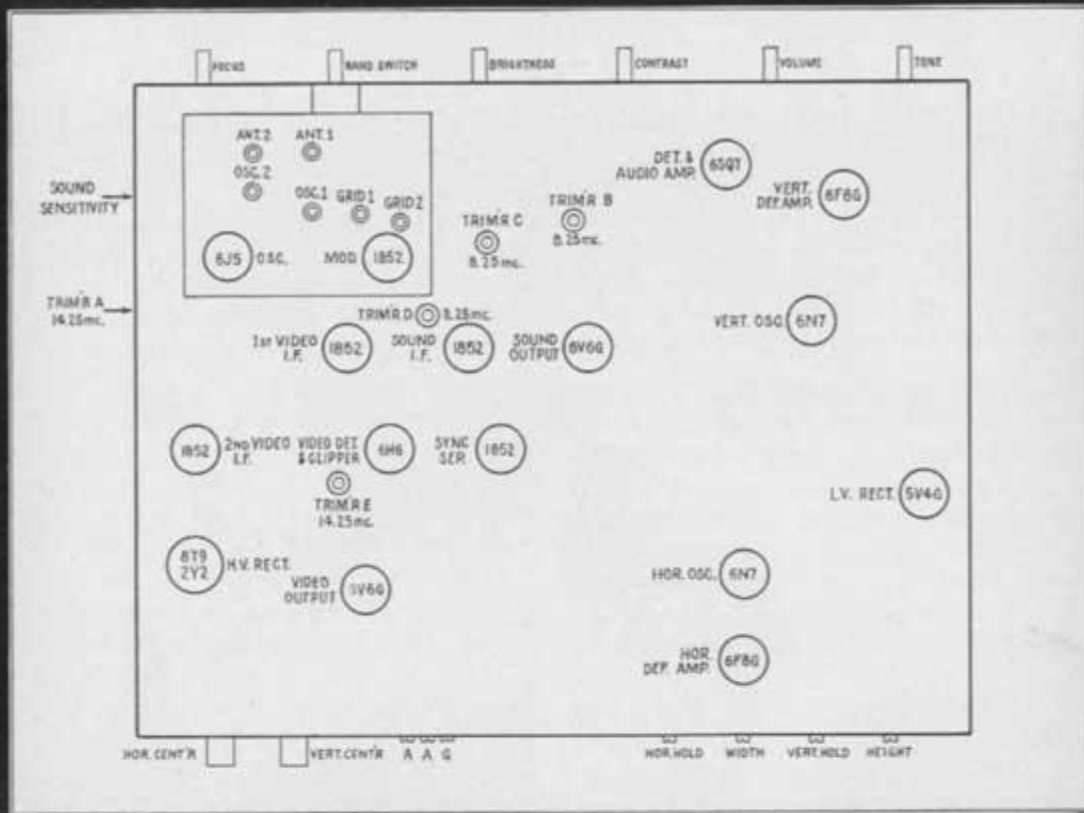

FIG. 71. TOP OF THE CHASSIS, SHOWING THE TUBE LAYOUT, AND THE LOCATION OF THE VARIOUS ADJUSTMENTS.
**Checking Tube Failures:** If you have determined that the fault lies in the set and not in the antenna, the first source of trouble to examine is the tubes. Consequently, a set of tested tubes must be at hand for television service work. Different tubes display quite definite symptoms of failure. With the Chart provided here, it is easy to locate the defective tube quickly. Fig. 71 shows the positions and functions of the various types.